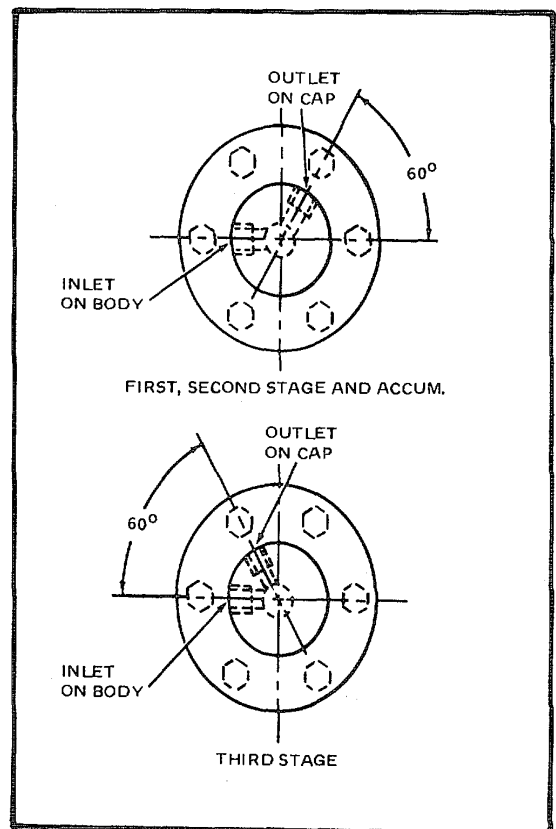

Figure 6-9. Bleed Valve Port Locations
- (5) Assemble proper spring (4) on diaphragm plate (6). Assemble cap (1) to body (12), aligning holes so that correct inlet to outlet relationship is obtained. (See Figure 6-9). Attach cap to body with lock washers (3) and cap screws (2). Tighten cap screws (2) to 16 + 1 pound-inch (1.81 + 0.113 Nm) of torque.